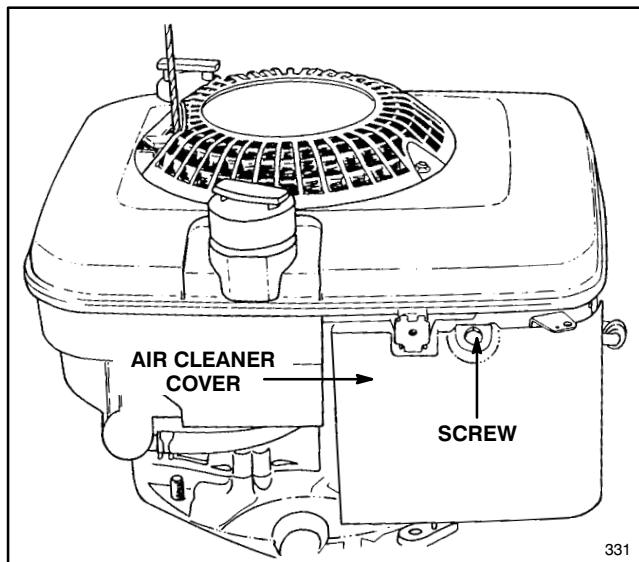

Figure 9
2. Loosen screw securing air cleaner cover to engine (Fig. 9). Tilt cover down and clean thoroughly.